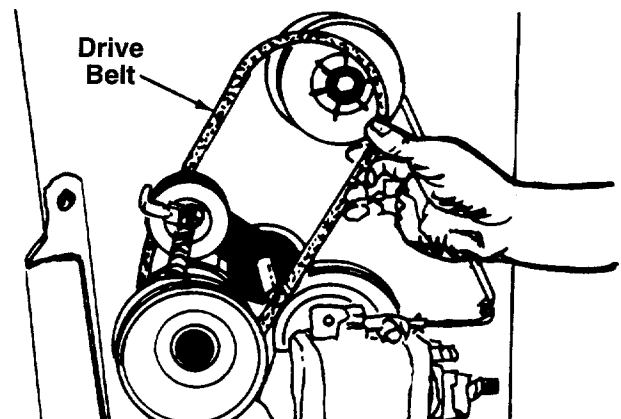

FIGURE 20.
9. Remove and replace the "V"-belt. See figure 20.